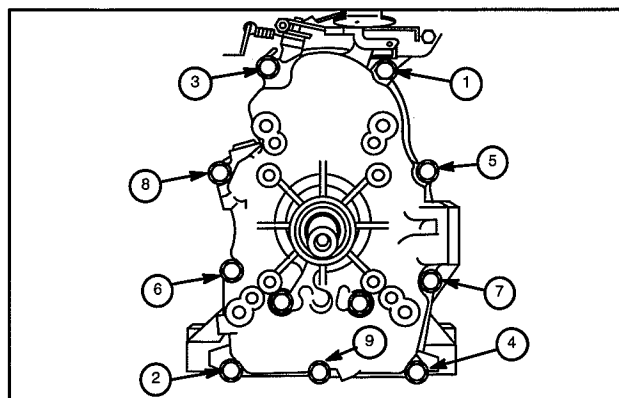

Fig. 30 – Install Crankcase Cover Or Sump
- a. Torque screws in sequence shown to 17.0 Nm (150 in. lbs.), Fig. 30.